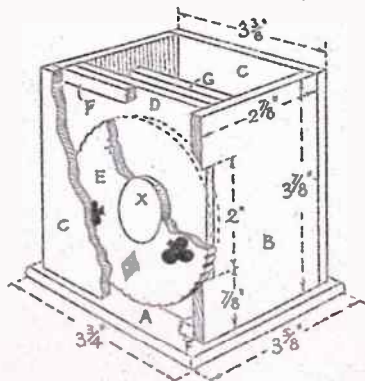

Fig. 2—Cutaway drawing, showing construction
Inside the box there is a central partition of wood which holds the two packs of cards apart. The simple construction of the box and its mechanism inside is explained in the cut-away sectional diagram Fig. 2.
Next, mark out and cut the two sides (B). Each is $3\frac{3}{4}$ ins. by $2\frac{3}{8}$ ins. One of them must have a recess cut in it 2 ins. long, as noted in Fig. 2. The width of the slot must be a full $\frac{1}{2}$ in. so as to allow the disc to protrude, and move round freely.